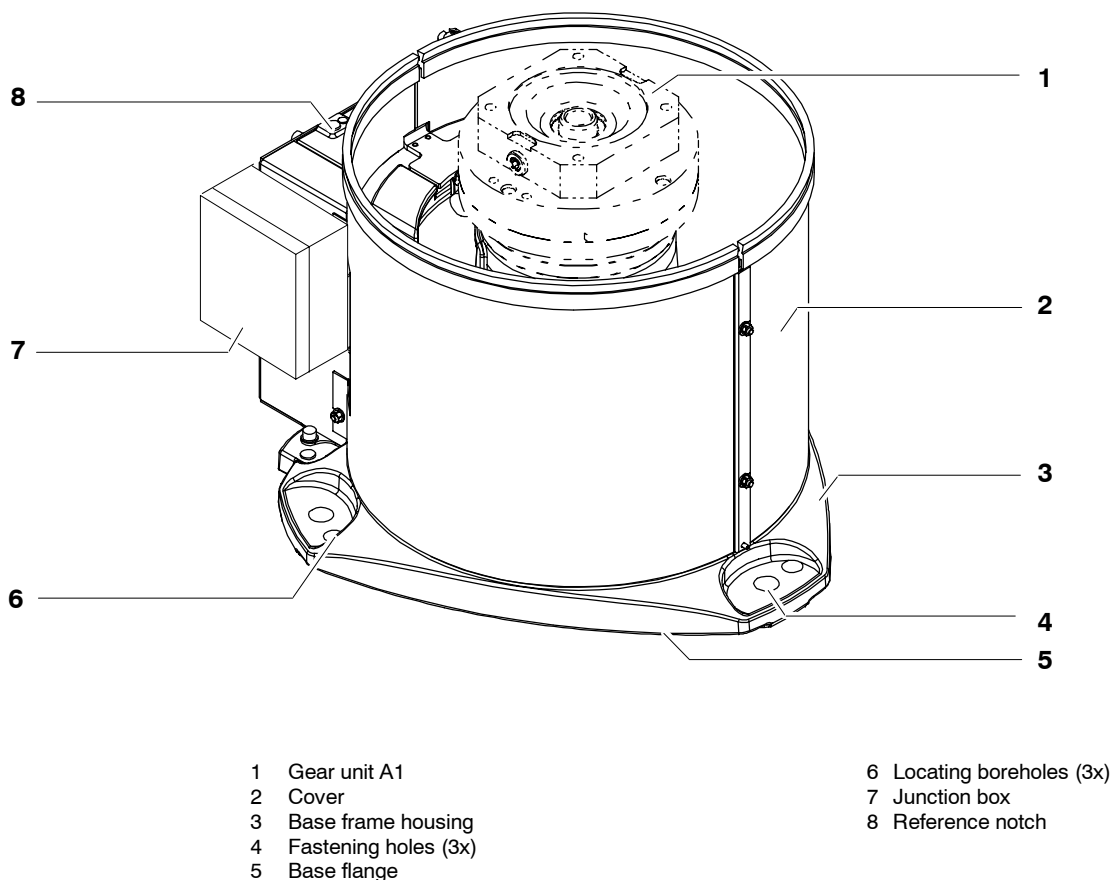

Fig. 11 Structure of base frame
The base frame (Fig. 11) is the stationary part of the manipulator, on which the rotating column turns with the link arm, the arm, and the wrist. Its base flange (5) features through-holes (4) for holding the manipulator down and three locating boreholes (6), with which the manipulator can be placed on two locating pins (accessories, see also Chapter 7.4, "Installation, connection").